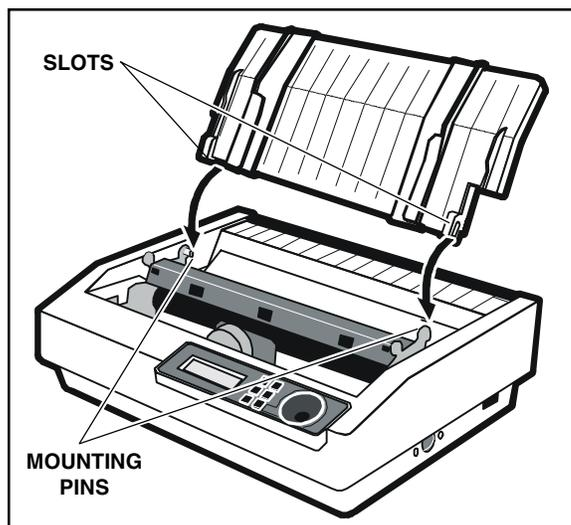

Figure 2-4. Installing the Paper Support, Raised
2. Slide the paper support slots onto the mounting pins, as shown in figures 2-4 and 2-5.